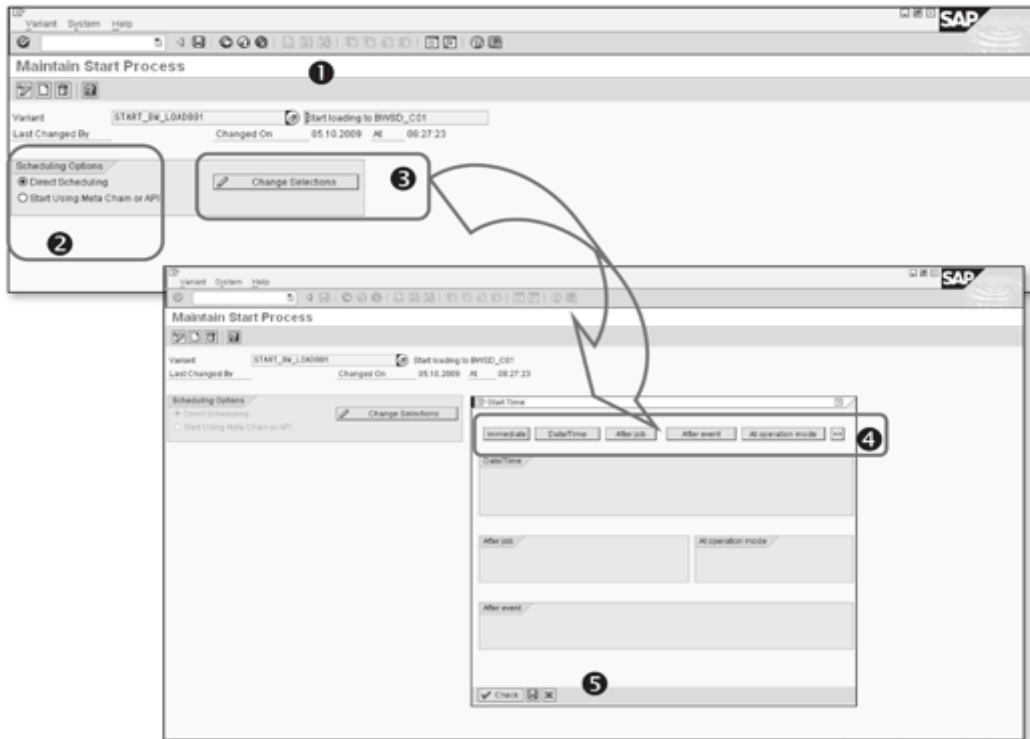

Figure 14.31 Process Chain – Maintain Start Process
Click the Continue icon (➔) to confirm the entries. The system takes to the Maintain Start Process screen (❶ of Figure 14.31).